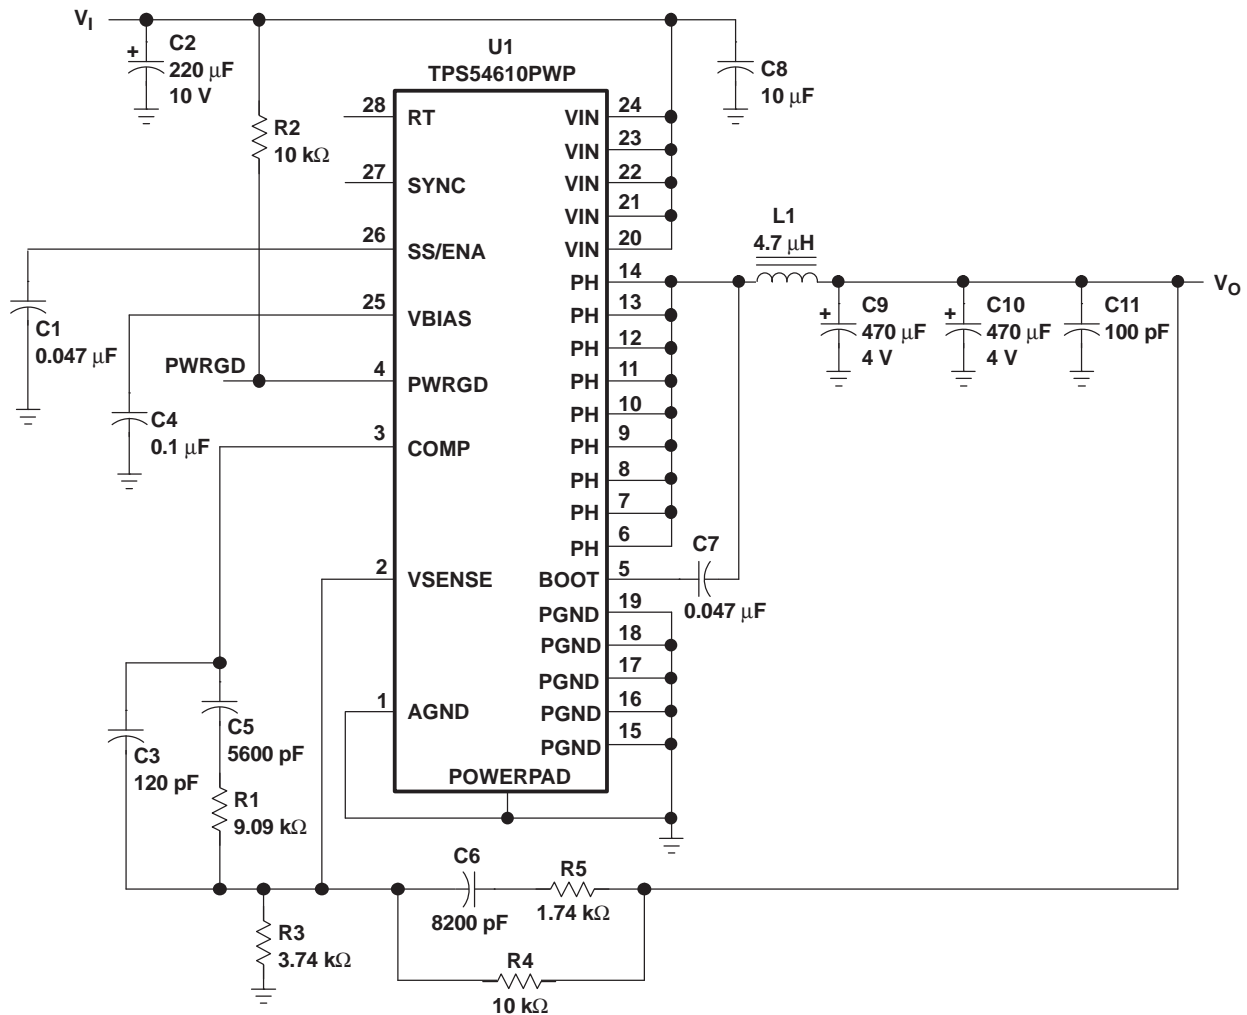

Figure 10. Application Circuit
(1) Specified by design
(2) Static resistive loads only
(3) Specified by the circuit used in Figure 10
Figure 10 shows the schematic diagram for a typical TPS54610 application. The TPS54610 (U1) can